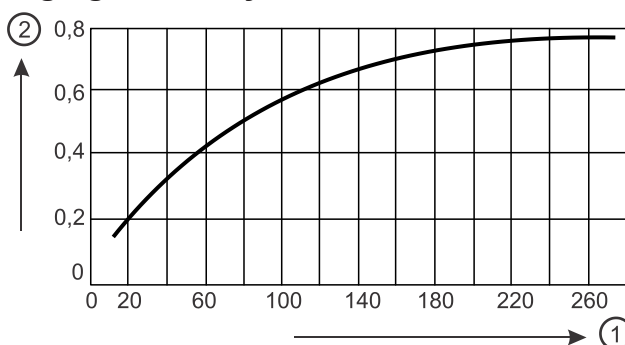

Figure 10: Coaxiality tolerance
1. To remove the rotary shaft seal, you will need an extractor suitable for the seal so that you do not damage either the running surface or the locating bore. In the event of problems with the seal, check whether the maximum permissible values for the concentricity between the locating bore for the rotary shaft seal and the running surface of the shaft or for the radial runout of the shaft are being exceeded. You can determine the maximum permissible deviations from the diagrams (Figures 10 and 11).